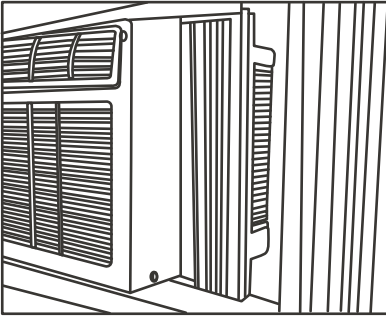

Fig.5
- 2 Keep a firm grip on the air conditioner, carefully place the unit into the window opening so the bottom of the air conditioner frame is against the window sill (Fig.5). Carefully close the window behind the top rail of the unit. (Suggest to keep a downward oblique, to let accumulated rain water to drain out, from back side of the unit bottom.)